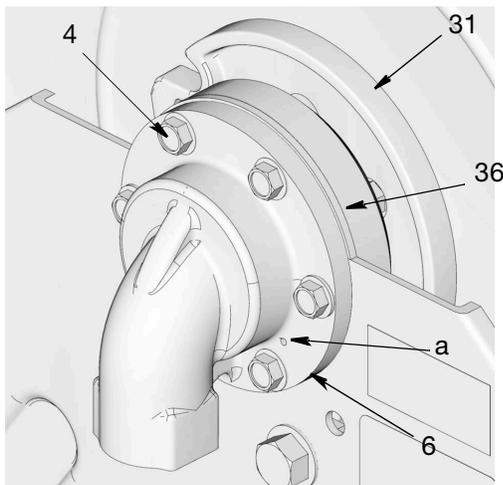
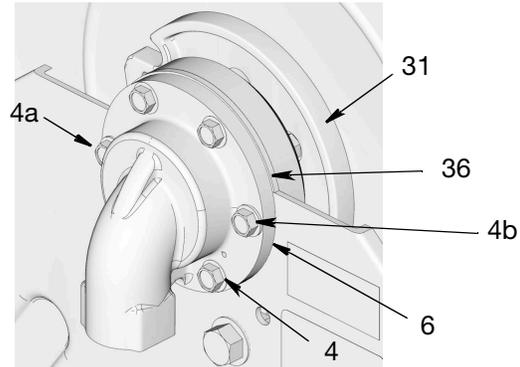

FIG. 20
FIG. 21
- The inlet (6) is designed with a weep hole (a) to indicate a failed seal (FIG. 20).
2. Remove the six bolts (4) (FIG. 20).
- It is not necessary to remove the inlet (6) to change the position.
- Medium Pressure Models only: The shim (36) may move out of place behind the outlet when the bolts are removed. Do not lose this piece. It is needed for reassembly after the outlet location is adjusted.
3. Rotate the inlet (6) to desired location.
4. Medium Pressure Models only: Align the shim (36) between the inlet (6) and the bearing retainer (35) (FIG. 21).
5. Install the side 2 bolts (4a and 4b), as shown in FIG. 21, through the frame and the inlet (6). Tighten the bolts just enough to hold everything in place.
6. Install the remaining four bolts (4). Hand tighten and then torque all of the bolts to 25 to 35 ft. lbs (33.9 to 47.45 N•m).